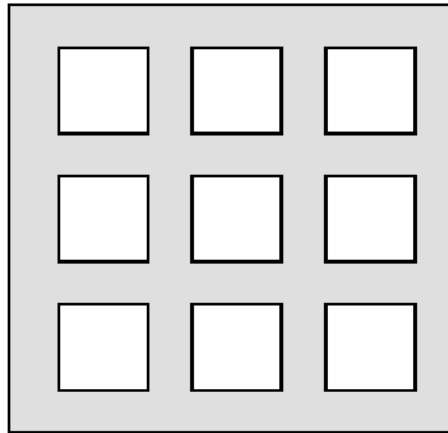

Figure 11 Solder paste application on exposed pad
3. For the PCB thermal pad, solder paste should be printed on the PCB by designing a stencil with an array of smaller openings that sum to 50% of the QFN exposed pad area. Solder paste should be applied through an array of squares (or circles) as shown in Figure 11.